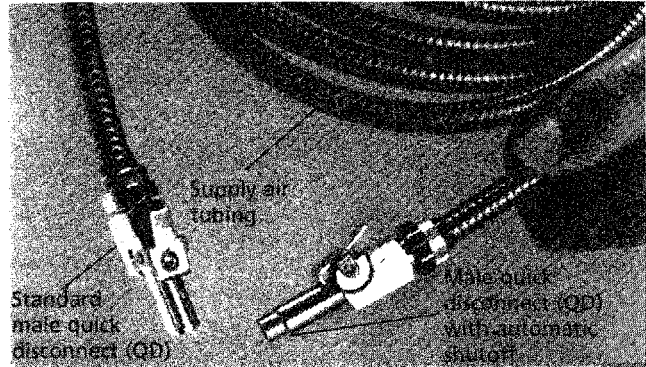
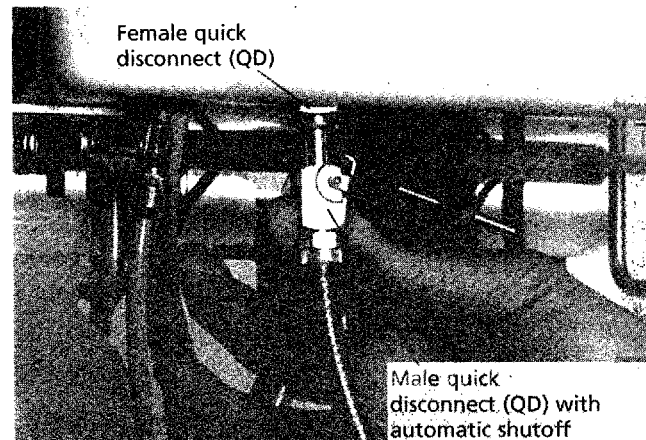

Figure 18. The supply air tubing is shown above.
Figure 19. Attach the supply air tubing.
Attach the supply air tubing male quick disconnect (QD) with automatic shutoff (see Figure 18) to the female QD at the bottom rear of the control head (see Figure 19).
Unit On/Off. To turn your Pac I unit ON, simply connect the unit supply air tubing (see Figure 18) to the compressor or bottled gas (refer to *About Your Pac I*).